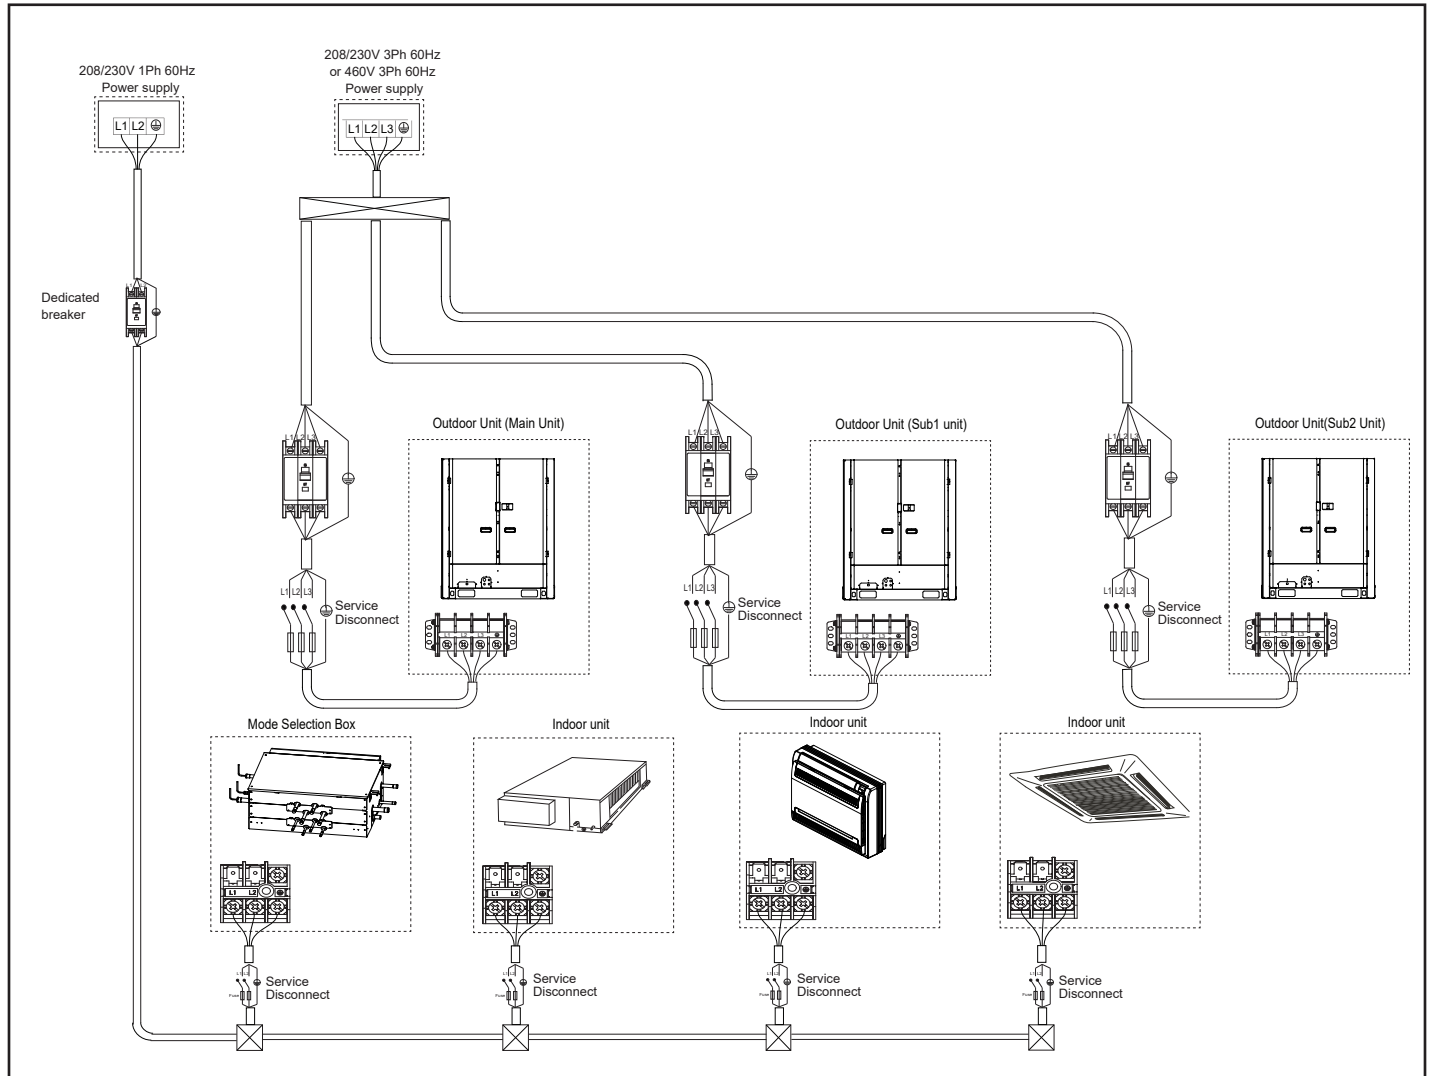

Figure 11. Typical Power Wiring Diagram (VRF Heat Recovery System Shown)
3. Connect the communications cable (per Figures 11, 12 and 13).